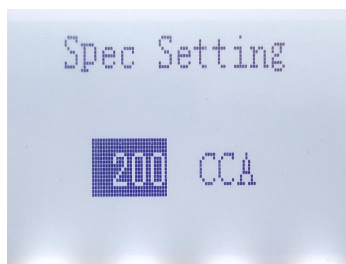

Figure 10
(3) Press OK key to enter and set the battery specifications (this step requires querying the CCA value of the battery), as shown in Figure 10: